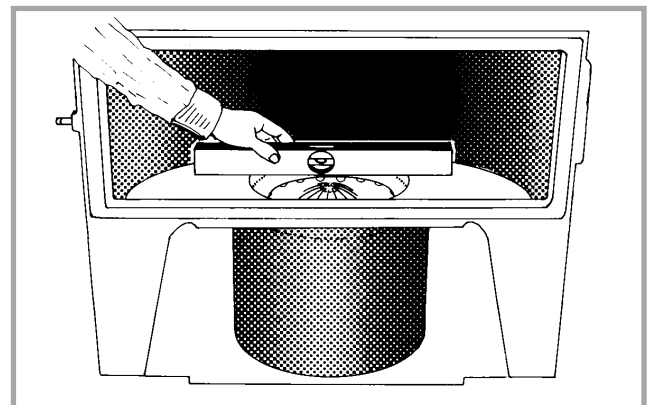

Fig. 10- Levelling
- Use a spirit level across the burner pot to check the level (fig. 10).